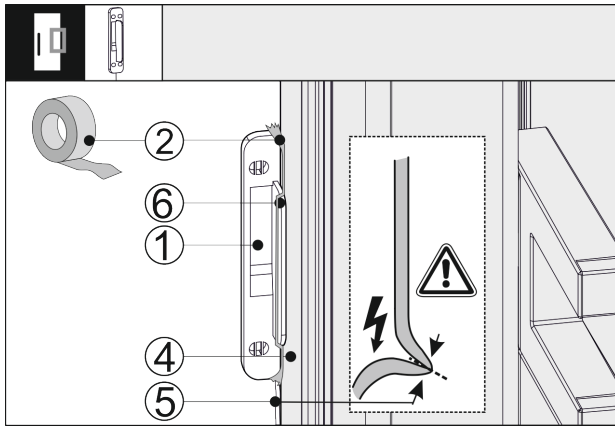

Fig. 42
- ▶ Place the knocking sensor Fig. 42 (1) on the side of the appliance door Fig. 42 (4) so that the stop Fig. 42 (6) touches the appliance door Fig. 42 (4). The sensor cable Fig. 42 (5) is slightly tensioned and also touches the appliance door Fig. 42 (4).
- ▶ Attach the knocking sensor Fig. 42 (1) with adhesive table Fig. 42 (2). The knocking sensor is later screwed onto the cabinet front.